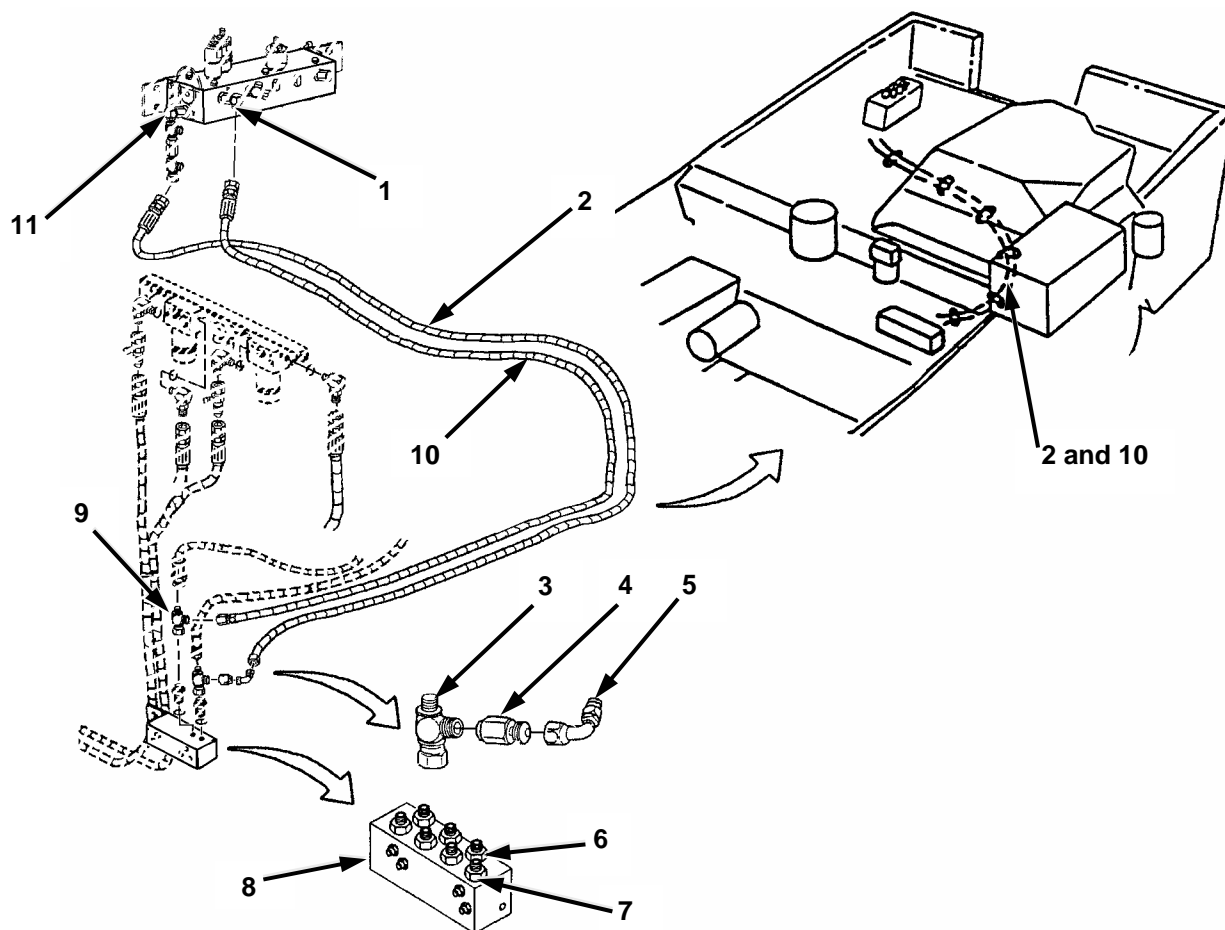

Figure 2-47. Manifold Fittings.
- i. Secure two apron hoses (4 and 11) with two clamps 900729-3 (8), one flat washer MS27183-14 (7), lock washer MS35338-46 (6), and screw B1821BH038C075N (5) to boss (9).
- j. Install tee 203102-10-10S (Figure 2-47, 3), tube reducer 2215-10-8S (4), elbow 500454-8S (5), and hose 13214E2457-15 (2) to manifold (8), port 7 (7) and track and blade manifold, port T (11).